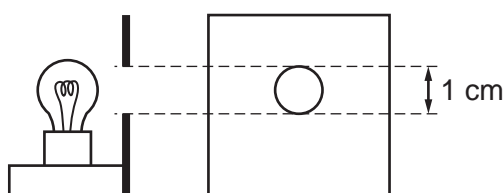

Fig. 4.1
- (i) Light source with a small circular hole (see Fig. 4.1). The hole is to be approximately 1 cm diameter.